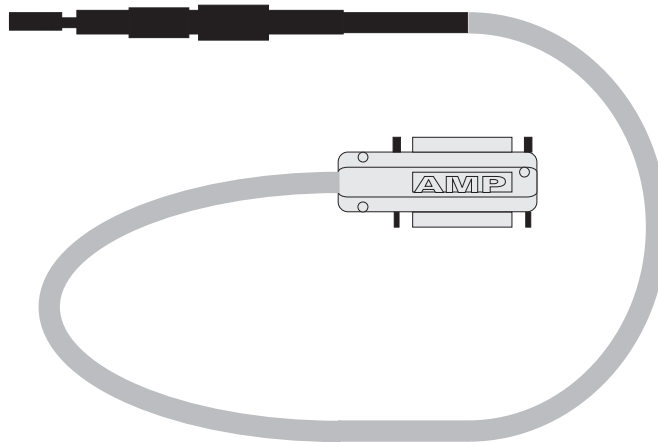

Figure A-5. HiPS 2.0 Interposer
3. Make sure data cable interposers, P/N 93G1097, are installed on all HiPS 2.0 switch assemblies before continuing. See Figure A-5 on page A-11 and refer to the following table: